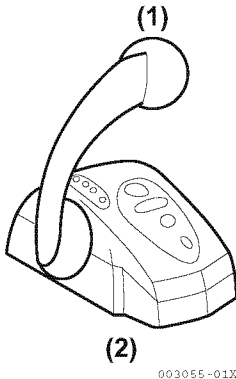

Figure 1
3. Set the control lever on the control head (Figure 1, (2)) in N (NEUTRAL) (Figure 1, (1)) position.